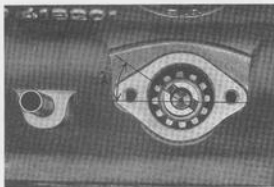

Fig. 2-63. Distributor drive position
When No. 1 cylinder is at top dead center, install the oil pump drive and distributor. The small part at the groove is turned obliquely upwards-backwards and the groove set at an angle of 35° or 5° to the longitudinal axis of the engine, see Fig. 2-63 (A). Make sure that the shaft goes down into its groove in the pump shaft.